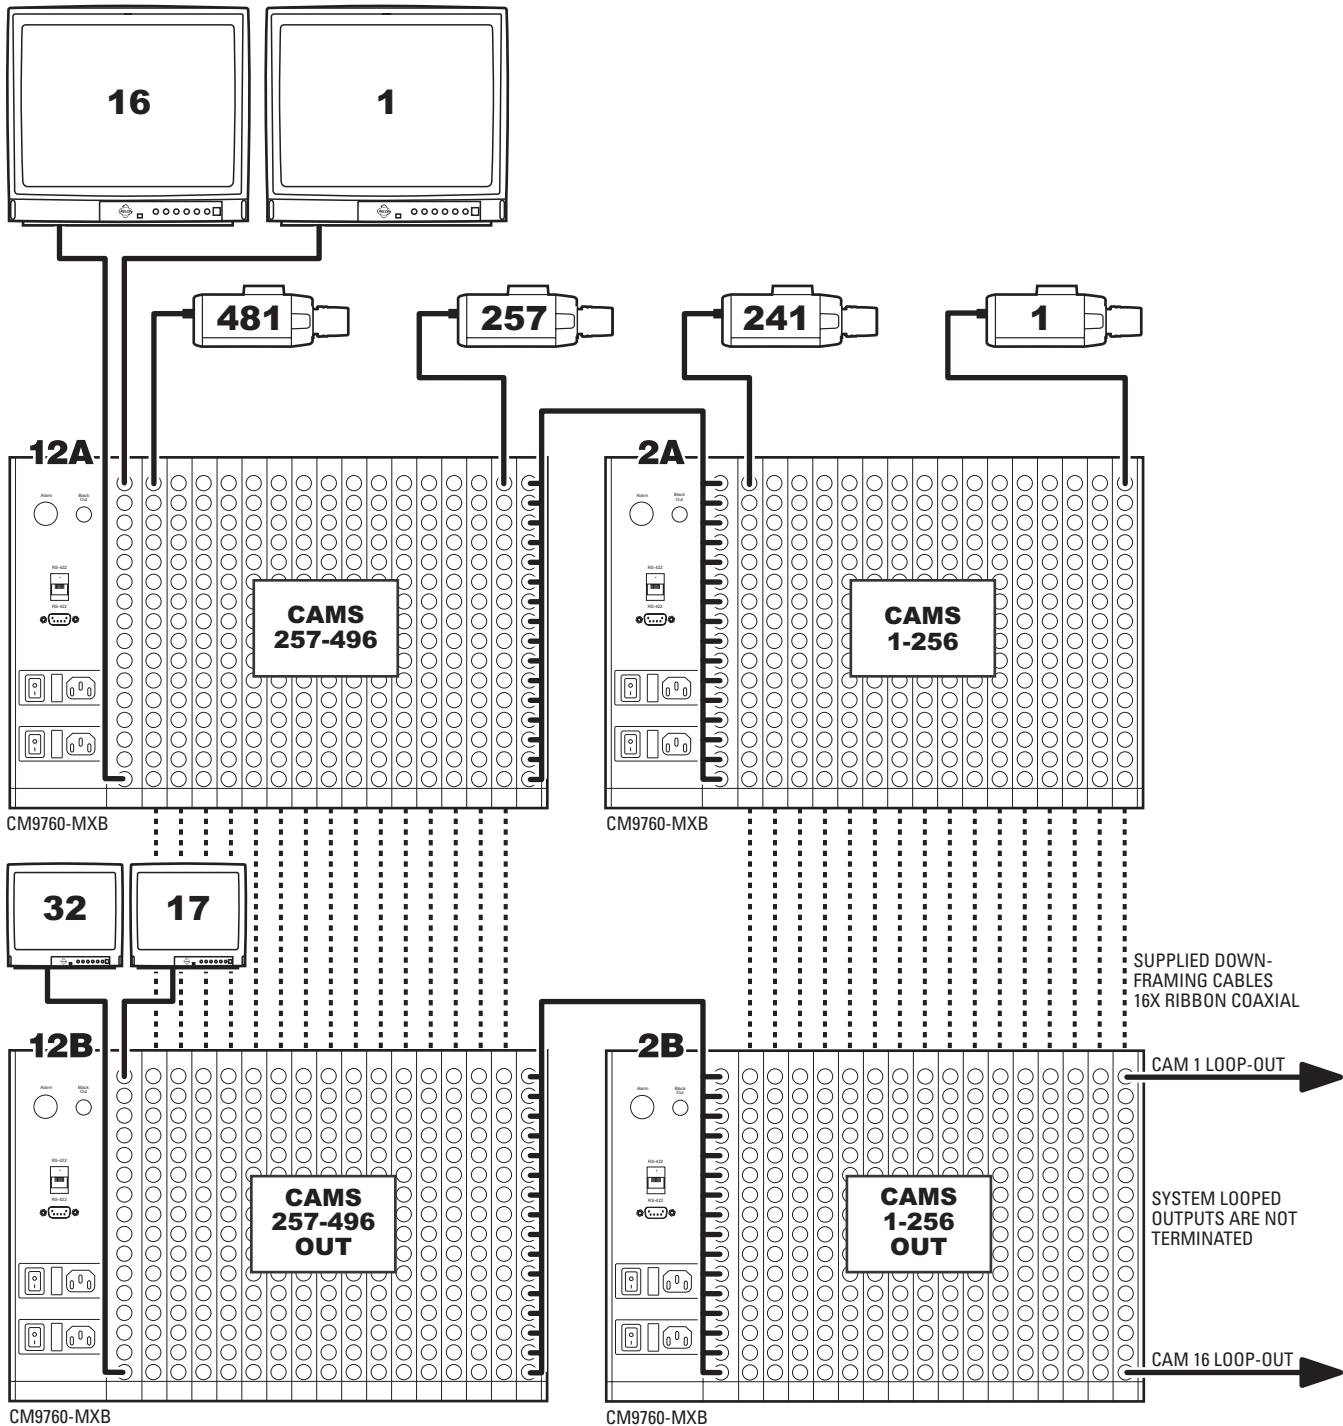
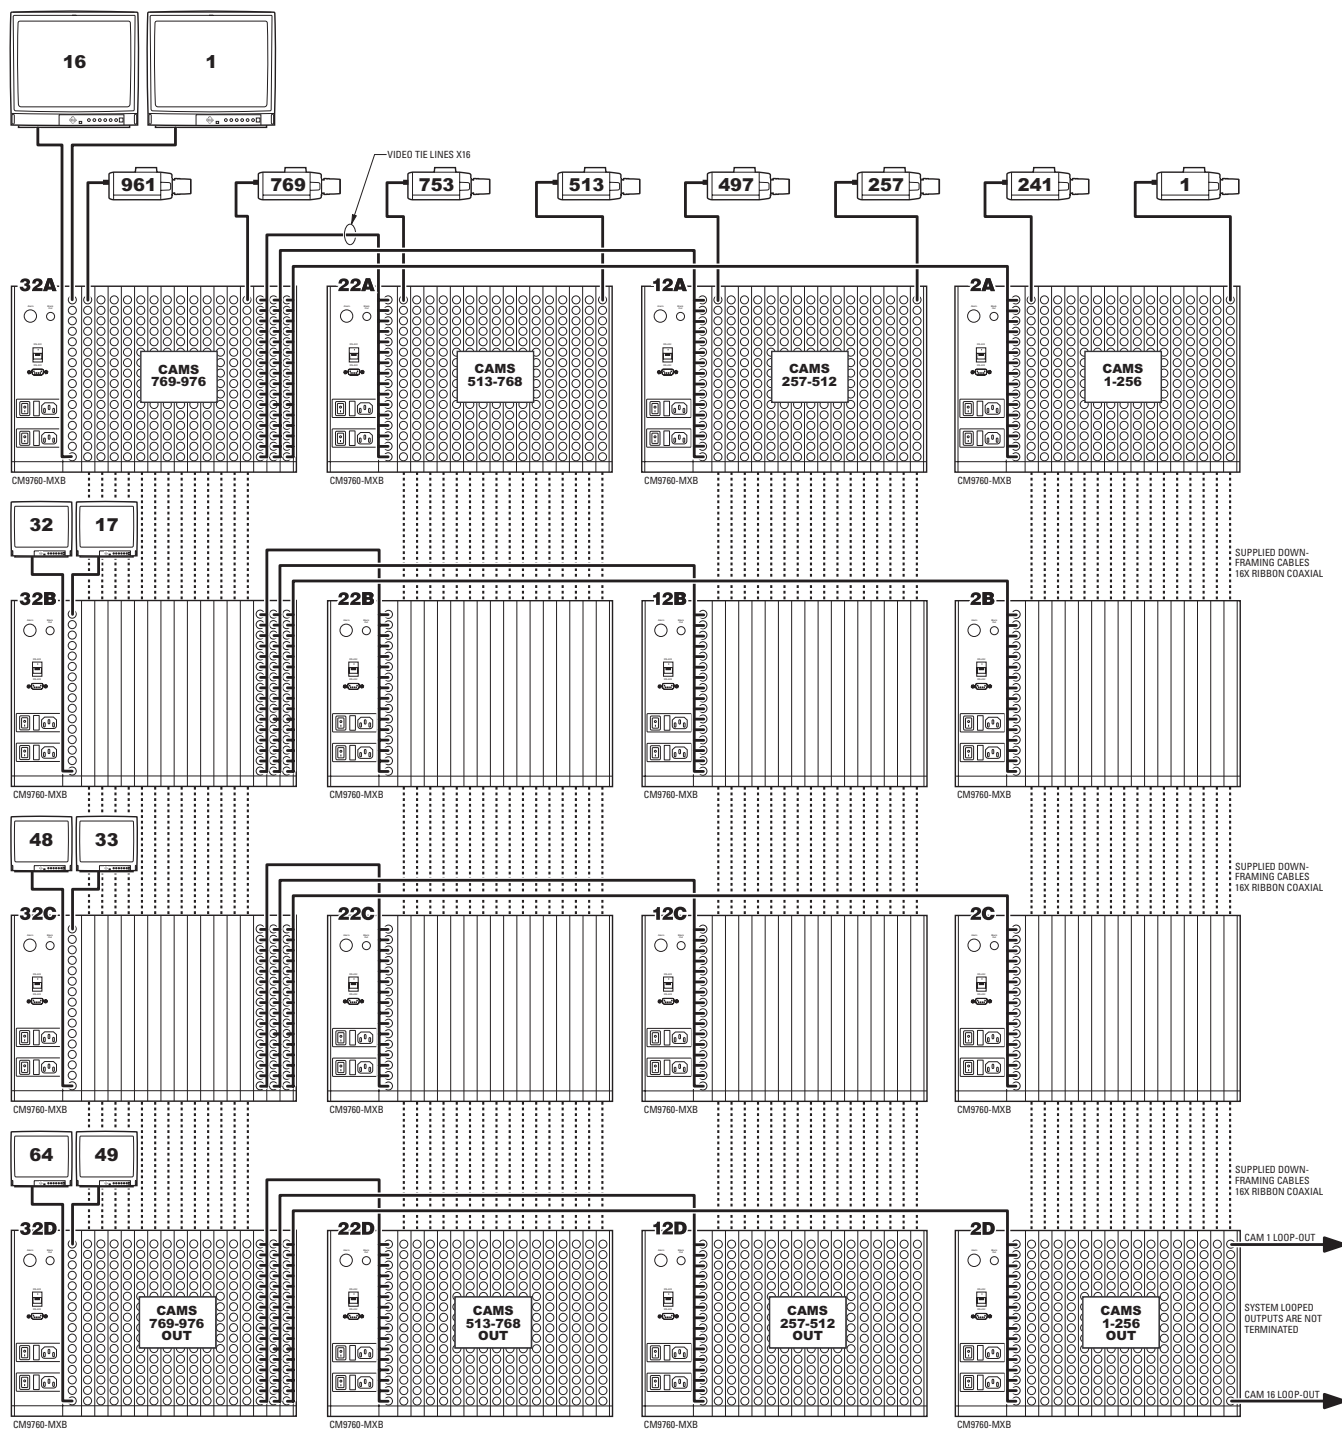

Figure 68. Sideframing and Downframing: 496 x 32 Configuration, Looping
Figure 84. Sideframing and Downframing: 976 x 64 Configuration, Looping
- 496 x 32, looping (refer to Figure 68)
- 976 x 64, looping (refer to Figure 84)
Figure 68 to Figure 84 illustrate configurations using a combination of sideframing and downframing.